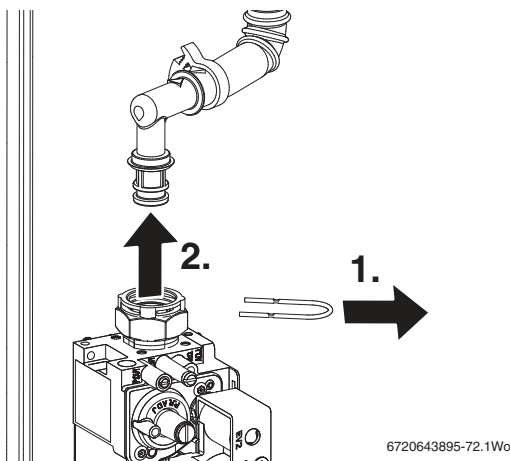

Fig. 80 Gas valve connection
1. Refer to figure 80 and remove the clip from gas valve outlet.